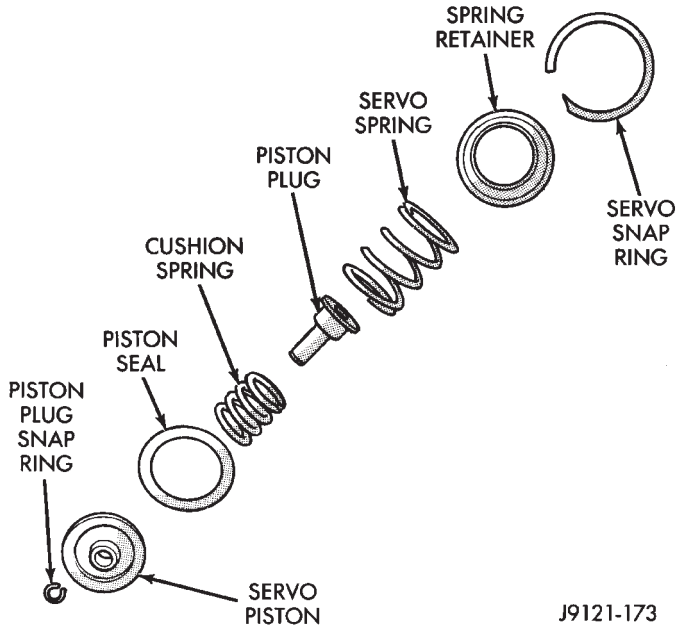
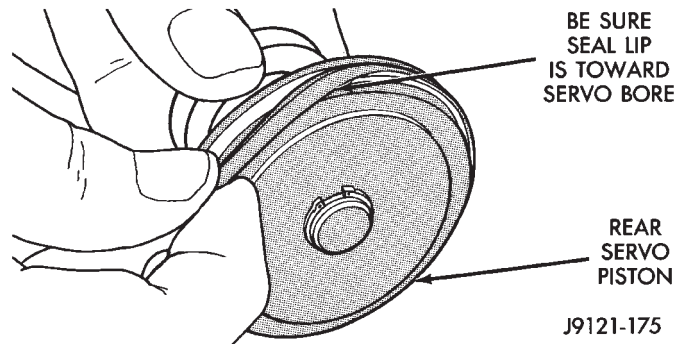

Fig. 104 Rear Servo Components
Fig. 105 Installing Rear Servo Piston Seal
Inspect the servo components (Fig. 104). Replace the servo and cushion springs if collapsed, distorted or broken. Replace the plug or piston if cracked, bent, or worn. Discard the servo snap ring and spring retainer if distorted or warped.
- (1) Assemble piston plug, cushion spring and piston (Fig. 104).
- (2) Compress cushion spring in vise and install piston plug snap ring.
- (3) Install new seal on piston. Be sure seal lip is toward servo bore (Fig. 105).
- (4) Lubricate piston seal with petroleum jelly. Lubricate other servo parts with transmission fluid.